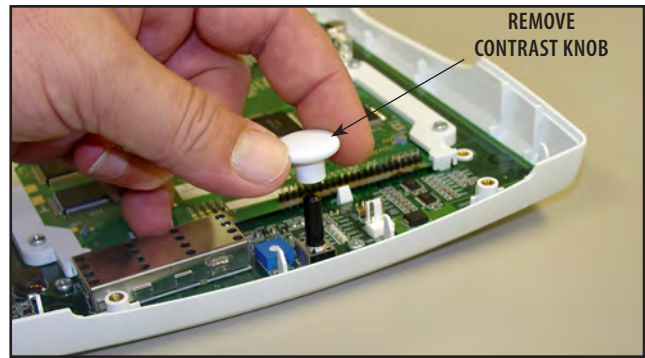

FIGURE 6.18
5. Remove the Contrast Control Knob. See **Figure 6.18**.